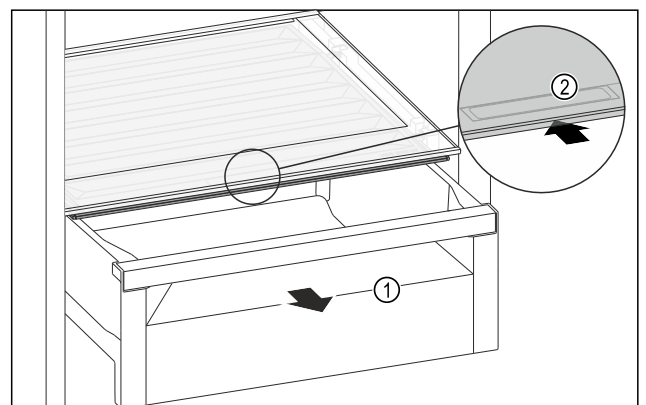

Fig. 117
- Pull out the drawer Fig. 117 (1).
- Grasp the recessed grip Fig. 117 (2) on the compartment lid and push the compartment lid backwards at the same time.